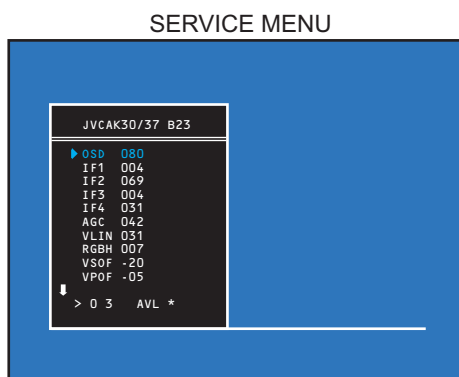

Fig.1
- (1) Press the **[INFORMATION]** key and **[MUTING]** key simultaneously, and the SERVICE MENU screen will be displayed. (Fig.1)